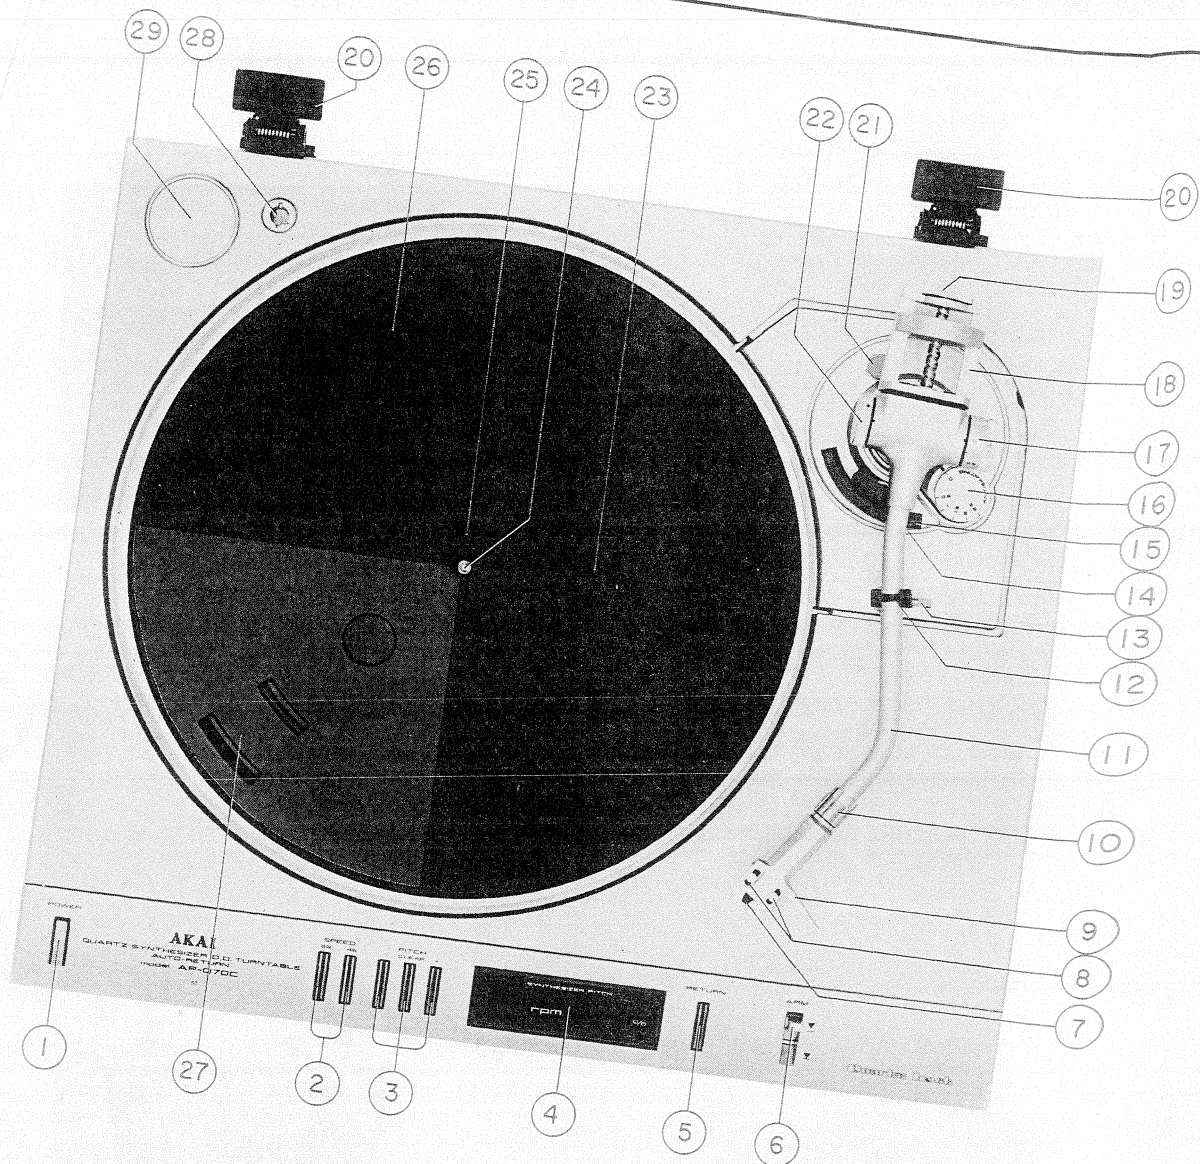

Fig. 1 Controls
1. U/T MODEL (Refer to Fig. 1)